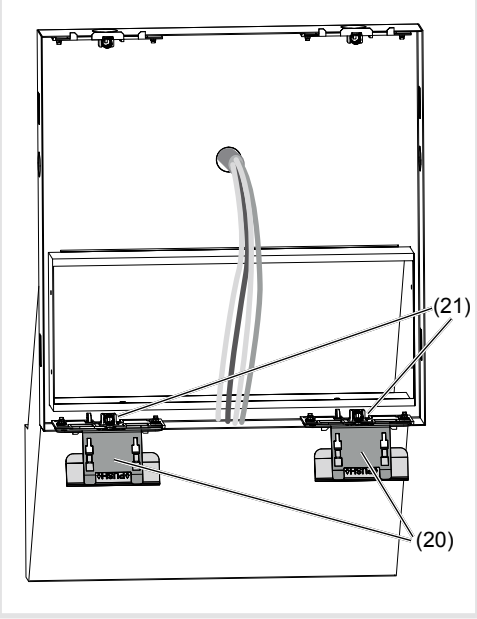

Figure 6: Inserted opening tools
- (18) Support bracket of the fastening elements
- Insert both opening tools (20) into the mounting device of the lower fastening elements (21) on the housing (Figure 6).